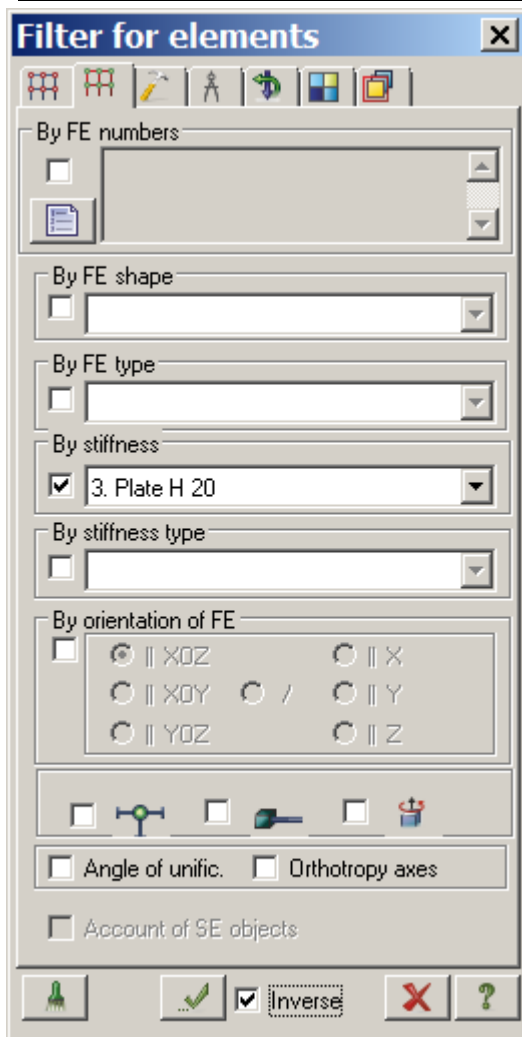

Figure 11.17 Filter for elements tab
- ⇒ In the **PolyFilter** dialog box, select the **Filter for elements** tab (the second tab) (see Fig.11.17).